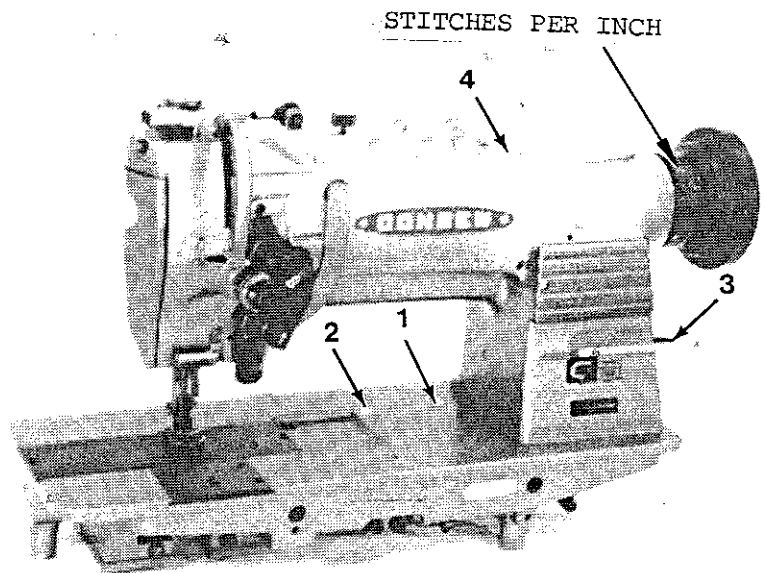
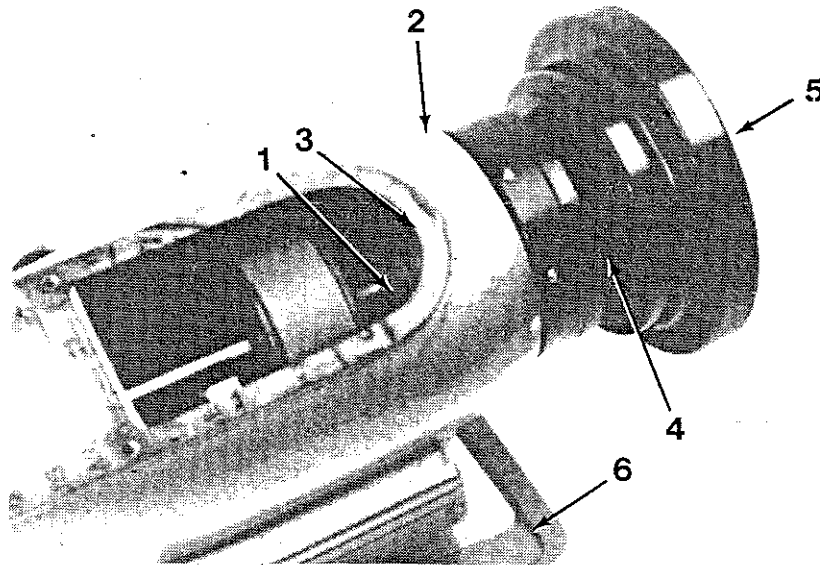
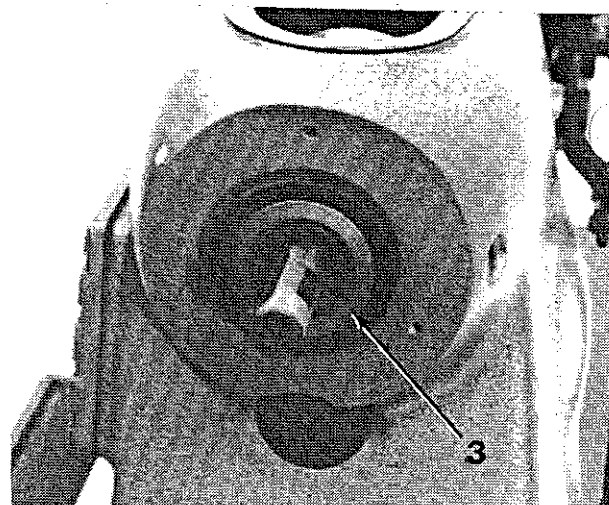
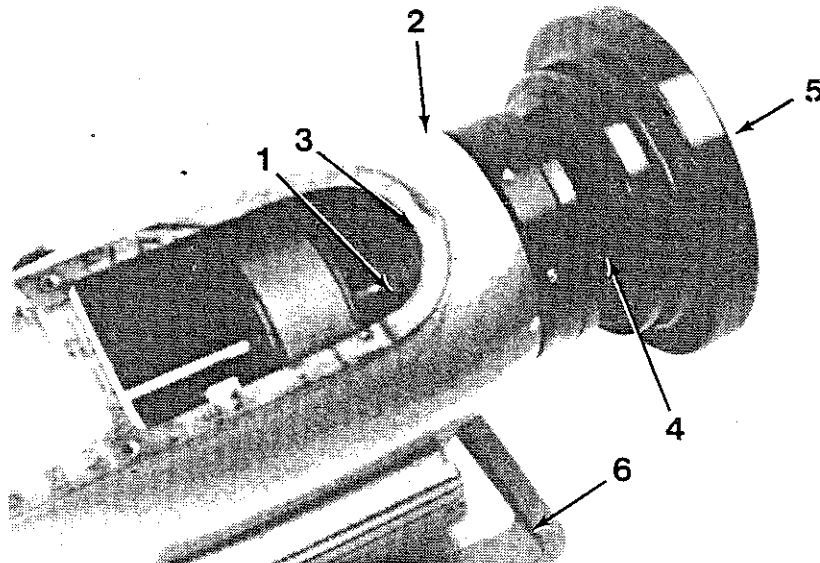

FIG. 16
FIG. 23
FIG. 22
FIG. 23
ADJUSTING THE STITCH LENGTH (Fig. 16)
The stitch length is changed by pressing down button 2, Fig. 16, in the bed plate of the machine and by simultaneously turning the handwheel slowly toward you.
HOW TO RE-SET THE SAFETY CLUTCH MECHANISM (Fig. 16)
The sewing hook and it's mechanism are protected by a safety clutch. In case the hook gets jammed with thread or other foreign matter, the safety device disengages the driving belt, stops sewing, and thus prevents the machine from getting damaged. If it should become necessary to re-engage the safty clutch, depress the button (1) Fig. 16 in the bed plate, at the same time, turn the handwheel away from you until the locking mechanism re-engages the drive shaft beneath the bed of the machine, open the slide plate above the hook and rock handwheel back and forth to remove any foreign matter which may have lodged in the hook.
Remove the arm top cover (4, Fig. 16) and remove the timing belt from the belt pulley, loosen the collar set screw (1, Fig. 23).
Loosen the two set screws (4, Fig. 23) for the hand pulley and remove the handwheel. Adjusting screw (5, Fig. 23), draw out the handwheel from the arm shaft.
Loosen the arm shaft rear bushing set screw (2, Fig. 23), pull out the rear bushing (3, Fig. 22) from the arm hole.
In case of the machine with reverse stitch mechanism, draw out the reverse lever (6, Fig. 23) with its shaft.